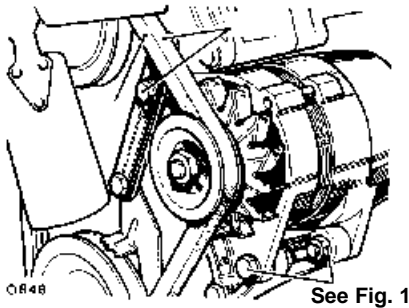
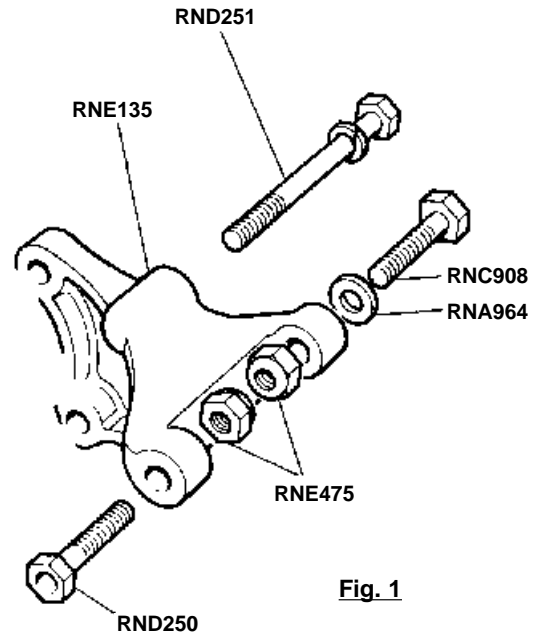

Fig. 2
Fig. 1
8. Offer the alternator up to the newly installed bracket. The tabs on the alternator go on the outside of the brackets. Fit the pivot bolts in place, the shorter one in the front and the longer one with the washer, in the rear (see fig.1). The bolts fit from the outside of the brackets only. Secure the adjustment arm to the upper tab of the alternator (see fig. 2). Fit the fan belt around all three pulleys. Using a pry bar between the alternator and the block, tighten the alternator against the fan belt. The alternator is tight enough when the belt can be pushed 1/4" between the alternator and the water pump pulleys, securing hardware (18 ft/lbs) (see fig. 3). Tighten all.